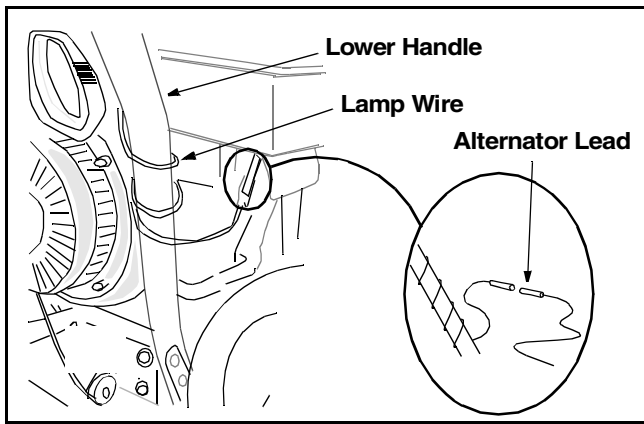

Figure 3
- Wrap the wire from the lamp down the right handle until the wire can be plugged into the alternator lead wire located under the fuel tank. See Figure 3.